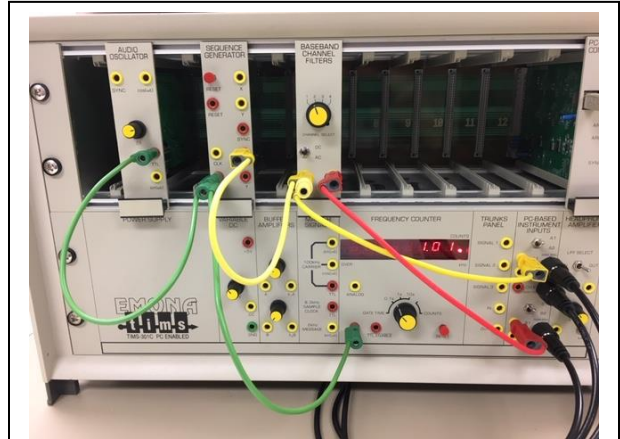

Fig 8 BASEBAND CHANNEL FILTERS module is shown inserted into Slot 6.
1. Insert the BASEBAND CHANNEL FILTERS module into the TIMS rack (shown here in slot 6 of Figure 8)
2. Connect the modules as shown in Figure 8.